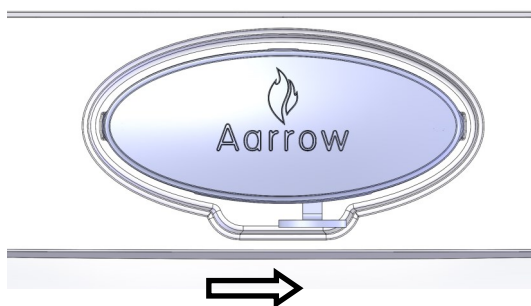
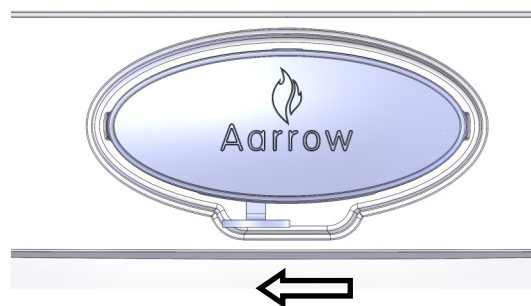
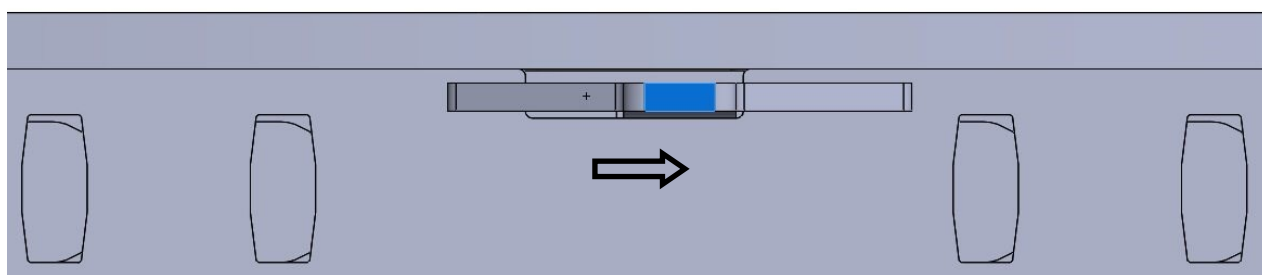
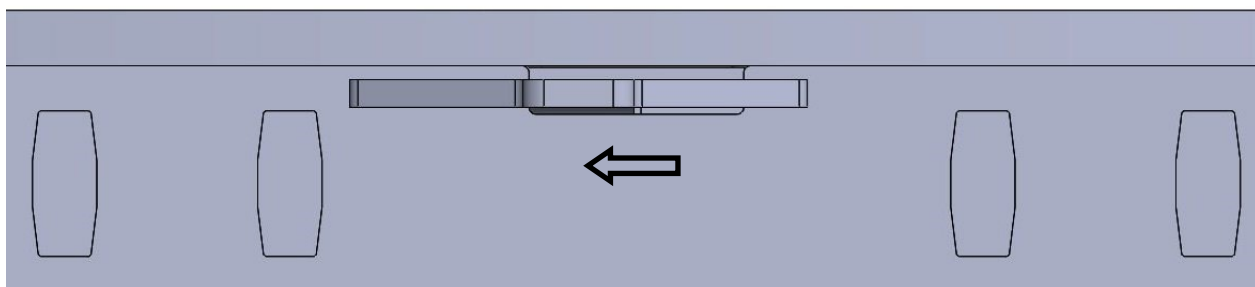

Fig. 1. Fully Open Position
Fig. 2. Fully Closed Position
Fig. 3. Fully Open Position
Fig. 4. Fully Closed Position
Sliding the knob to the right will increase the amount of air intake to the stove, as shown in position (in figure 1). To decrease, push the slider to the left, as shown in position (in figure 2).
Sliding the control knob to the right as far as it will go, achieves the fully open position, see figure 3. Sliding it to the left will shut down the air inlet slots as shown in figure 4.
NOTE : For ECB 5F Plus & ECB 5F Plus-WS models that are fitted with the mechanical stop for smoke control areas, then please note that the airwash will not fully close as in Fig. 4.
Solid fuel burns best with its air supply for combustion coming from underneath the fuel. To achieve this the burn will be controlled by the primary air control (see Fig 1 & 2). This allows you to control the flow of air, underneath the grate. Riddling the stove occasionally will also help to ensure that burnt fuel does not prevent the supply of air from reaching the fire bed.
- 1) Set the airwash (secondary) (see Fig 3 & 4) air slider to about one quarter open and the primary air slider fully open (see Fig 1).